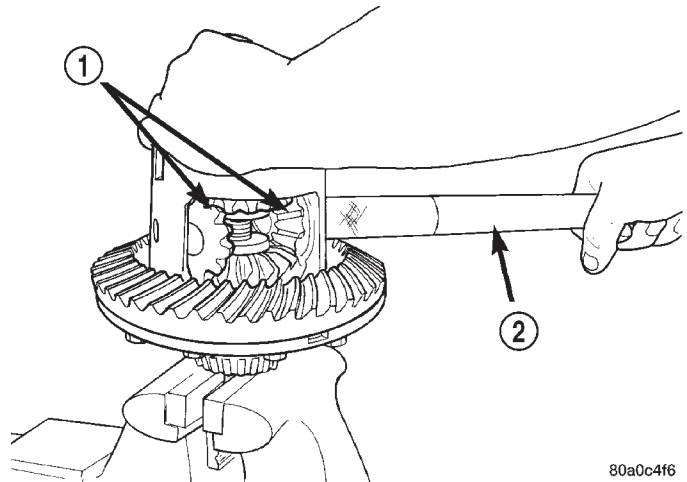

Fig. 59 Pinion Gear Removal
(11) Insert Turning Bar C-6960-2 in case (Fig. 59).
(12) Loosen the Forcing Screw C-6960-4 in small increments until the clutch pack tension is relieved and the differential case can be turned using Turning Bar C-6960-2.
(13) Rotate differential case until the pinion gears can be removed.
(14) Remove pinion gears from differential case.